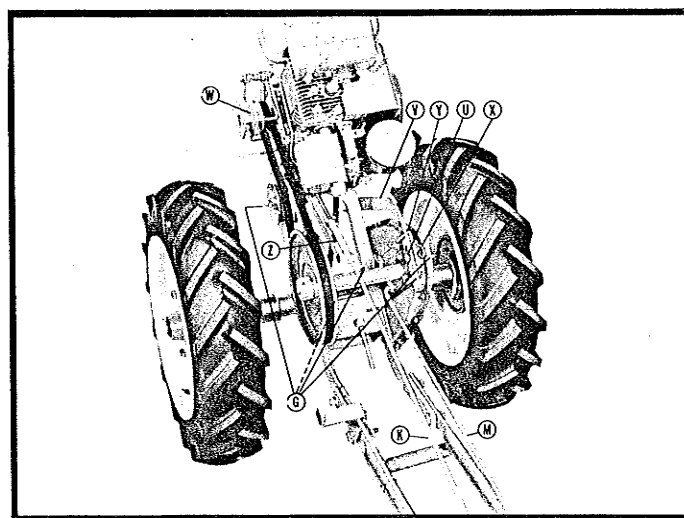

Fig. 3
turn it around and replace with large pulley to outside as shown in Figure 3.
Remove spring clip (X) and lock bar pin (U). Pull transmission slightly to the rear so that pin (U) will enter rear hole as shown in Figure 3. To facilitate this adjustment, a convenient handle (Y) is provided. Replace spring clip (X) to hold pin. Replace tractor drive belt.
There are four high pressure grease fittings on the tractor, one grease fitting on the idler pulley, one on the main axle housing, one on the gear case and one on the bearing housing. **They are located in Fig. 3 and designated with letter (G).** Grease the idler pulley every 4 to 6 hours of use. Grease the main axle housing every 12 to 15 hours of use. The gear case housing will require a few shots of grease every 40 to 50 hours of use. Lubricate the bearing housing every 5 to 6 hours of operation with a general purpose semi-solid grease.